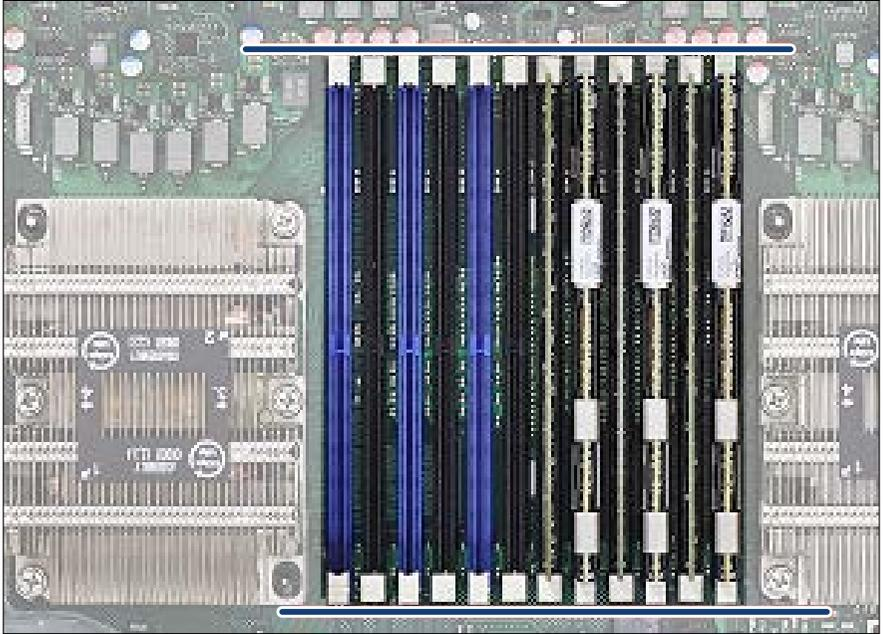

Figure 212: Correct position of securing clips
- ▶ Check if all securing clips are in the correct position, see Figure 212.